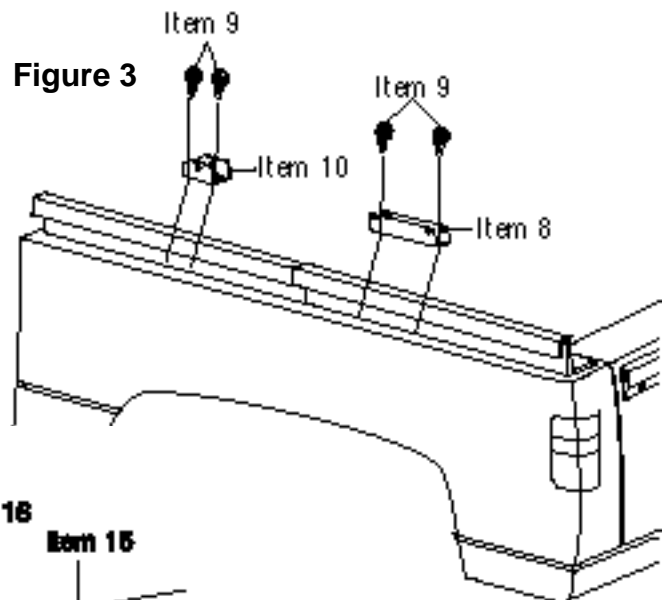

Figure 3
Step 4. Bow Mount. Using rear body aluminum as a template mark and drill two 5/32" holes. Place rear bow mount (Item 8) over holes just drilled. Secure to body with #14 x 1/2" sheet metal screws (Item 9). Using front body aluminum as a template mark and drill two 5/32" holes. Place front bow mount (Item 10) over holes just drilled. Secure to body with #14 x 1/2" sheet metal screws (Item 9). Repeat for the other side. See figure 3.
Step 5. Bows. Secure bow release bracket (Item 12) to bow mount by placing 1/4-20 x 1 1/2" hex head bolt (Item 11) through one side of bow mount, the bow release bracket and the other side of bow mount. Secure with 1/4-20 lock nut (Item 13). These items must pivot so do not over tighten. Repeat for other side. Place bow sleeves (Item 14) over rear bow halves (Item 15). Slide rear bow halves together. Mount rear bow into center set of holes in bow release bracket by placing 1/4-20 x 1 1/2" hex head bolt (Item 11) through one side of release bracket, rear bow, and then through the other side of release bracket. Secure with 1/4-20 lock nut (Item 13). Again these items must pivot so do not over tighten. Repeat for the other side. Slide bow sleeves (Item 14) over center bow halves (Item 16). Slide center bow halves together. Place center bow into forward edge of rear bow mount so that the large holes in bow are facing towards the front of vehicle. Place 1/4-20 x 1 1/2" hex head bolt through one side of bow mount, front bow and through other side of bow mount. Secure with 1/4-20 lock nut. Once again these items must pivot so do not over tighten. Repeat for the other side. See figure 3. Slide bow sleeves (Item 14) over front bow halves (Item 17). Slide front bow halves together. Place 1/4-20 x 1 1/2" hex head bolt through one side of bow mount, front bow and